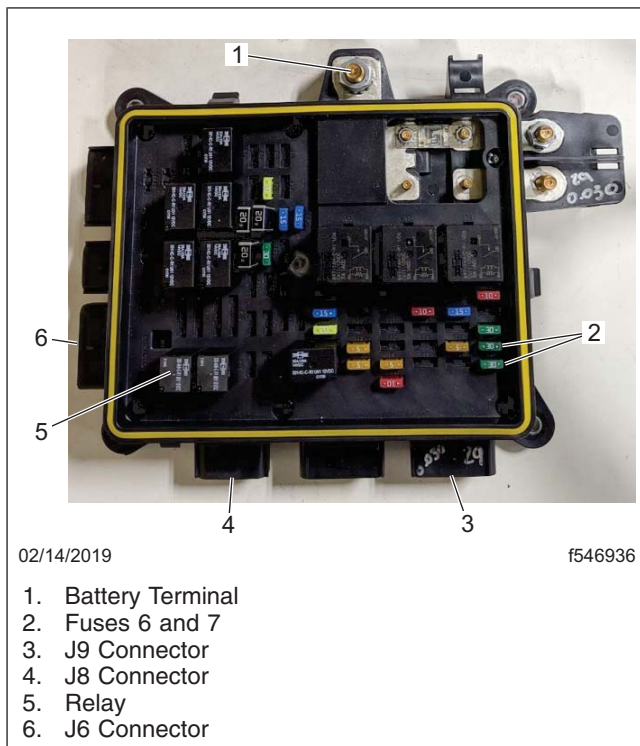

Fig. 2, PDM Components
IMPORTANT: The tester will work with a PDM connected to the vehicle or removed and placed on a work bench. If the PDM is being bench tested (PDM is not on the vehicle), ensure that 12V of power is supplied to the battery terminal. See Fig. 2, item 1.
5. Remove the PDM cover and locate the circuits to be tested. See Fig. 2.
6. Remove the two fuses and one relay from the PDM. See Fig. 2, items 2 and 5.
15. Remove all of the test box connectors and install the relay and fuses removed earlier. For relay and fuse locations see **Fig. 2**.